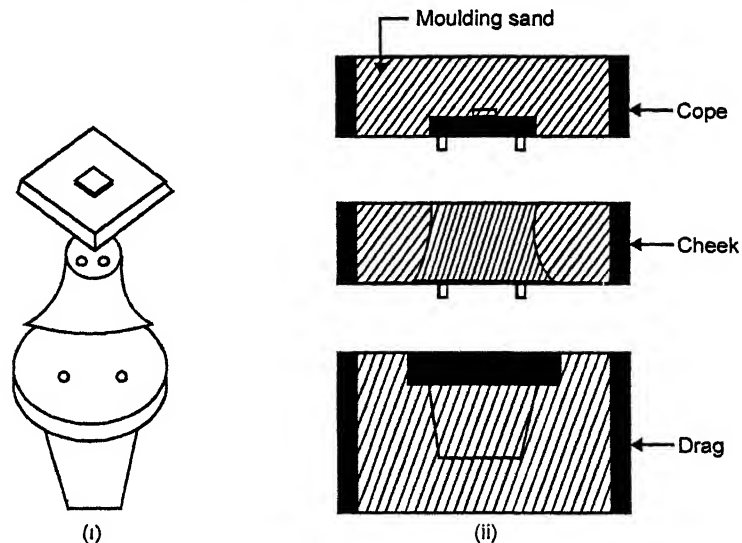

Fig. 8.3. Multipiece pattern.
- Sometimes a pattern is constructed in three or more part for complicated castings. Such a pattern is called *multi-piece pattern* (Fig. 8.3).